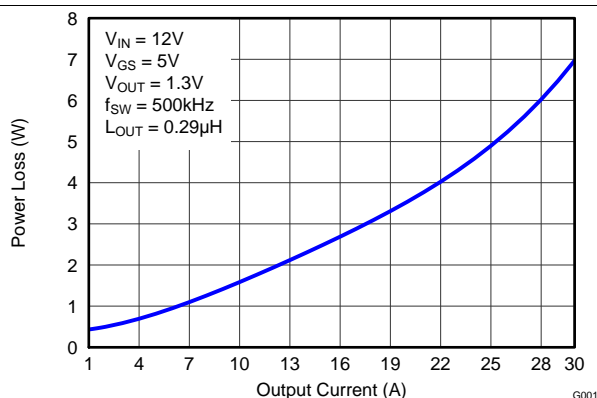
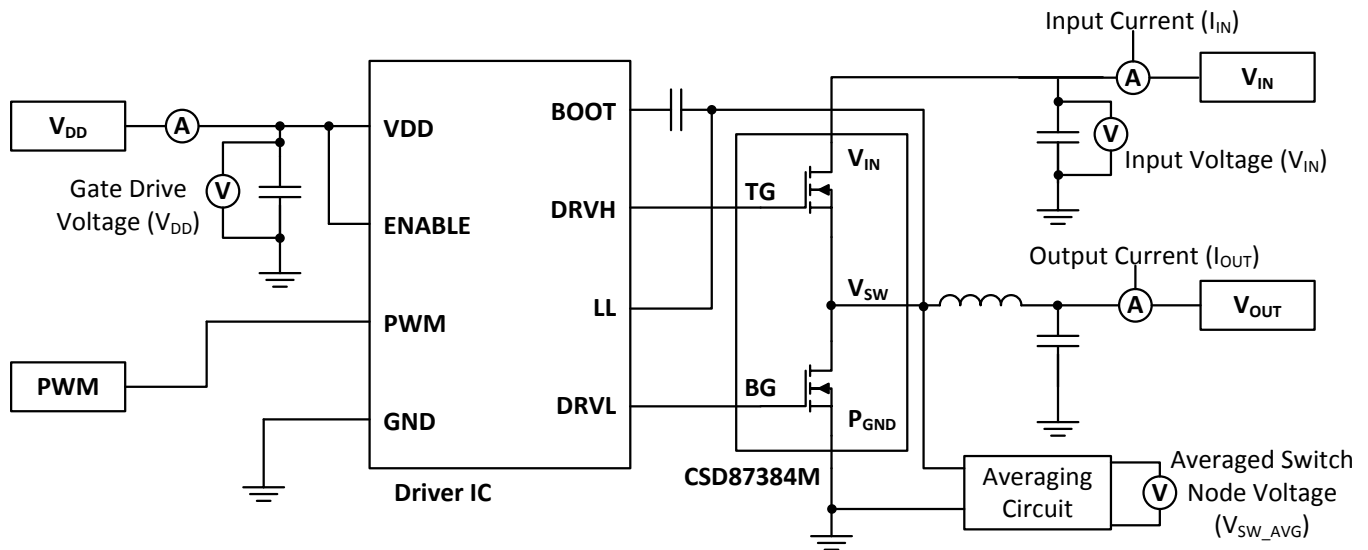

Figure 1. Power Loss vs Output Current
Figure 27. Typical Application
MOSFET-centric parameters such as $R_{DS(ON)}$ and Q_{gd} are needed to estimate the loss generated by the devices. To simplify the design process for engineers, TI has provided measured power loss performance curves. Figure 1 plots the power loss of the CSD87384M as a function of load current. This curve is measured by configuring and running the CSD87384M as it would be in the final application (see Figure 27). The measured power loss is the CSD87384M loss and consists of both input conversion loss and gate drive loss. Equation 1 is used to generate the power loss curve.
The power loss curve in Figure 1 is measured at the maximum recommended junction temperatures of 125°C under isothermal test conditions.
- Power Loss at 20 A = 3.5 W (Figure 1)